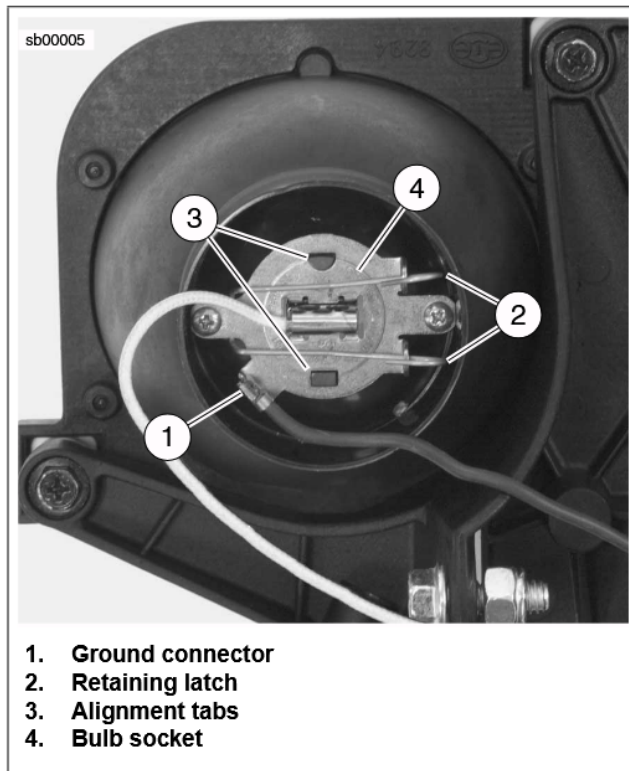

Figure 3. Headlight Bulb/Socket
- b. Remove four screws (4) from headlight and pull headlight out from the support bracket.
- c. Remove black rubber cover (5) from rear of headlight.
- d. See Figure 3. Disconnect headlight ground connector (black) (1) from rear of headlight.
- e. Release wire retaining latch (2) from headlight housing clips. Pull bulb with socket (4) from headlight housing.
- a. See Figure 3. Align tabs on bulb socket (4) with tabs on rear of headlight (3) and insert bulb. Close the wire retaining latch (2).
- b. Connect headlight ground connector (black) (1) to rear of headlight.